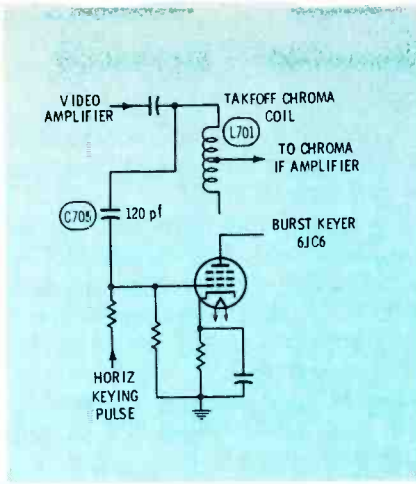

Fig. 6 Open C705 in RCA CTC25X chassis reduced the burst level, producing weak chroma sync and erratic hues.
**RCA CTC25X Symptoms:** Color sync weak, and hue would change with fine tuning on colorcast, or by varying the percentage of burst on the color-bar generator. Since strong color was produced, burst was suspected. All DC voltages on the burst keyer were normal, but low DC was measured on the phase detector diodes, indicating weak burst. The scope showed strong color bars at the chroma take-off coil spike. Diagnosis and cure: C705 open; replaced with 120-pf ceramic capacitor. See Fig. 6.